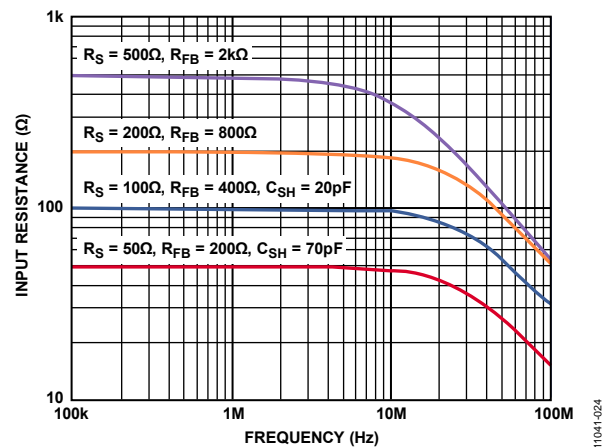

Figure 34. R_{IN} vs. Frequency for Various Values of R_{FB} (Effects of R_{SH} and C_{SH} Are Also Shown)
The bandwidth (BW) of the LNA is greater than 80 MHz. Ultimately, the BW of the LNA limits the accuracy of the synthesized R_{IN} . For $R_{IN} = R_s$ up to about 200Ω , the best match is between 100 kHz and 10 MHz, where the lower frequency limit is determined by the size of the ac coupling capacitors, and the upper limit is determined by the LNA BW. Furthermore, the input capacitance and R_s limit the BW at higher frequencies. Figure 34 shows R_{IN} vs. frequency for various values of R_{FB} .